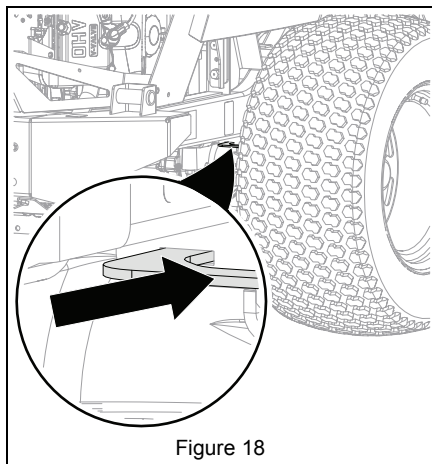

Figure 18
5. Return transaxle bypass levers to operating position. See Figure 18.